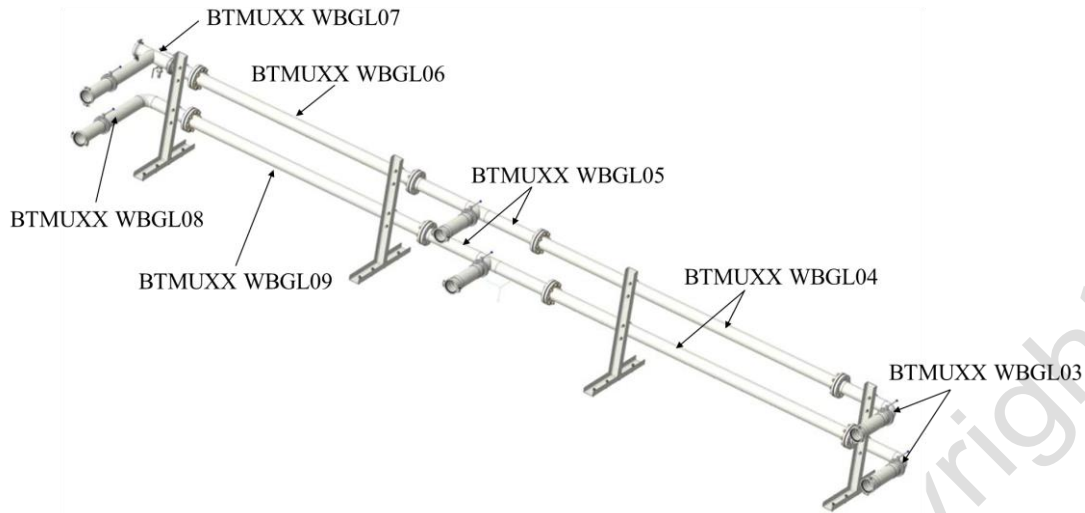

Figure 6.8 Pipeline installation detailed diagram.
- a. Connect the pipes and components in sequence according to the pipeline installation diagram Figure 6.8.
- c. Before tightening the bolts of the pipes, lubricating oil needs to be applied first. The installation must be carried out according to the serial numbers indicated on the following drawings. The installation sequence is: ①BTMUXX WBGL07→②BTMUXX WBGL08→③ BTMUXX WBGL06 → ④ BTMUXX WBGL09 → ⑤ BTMUXX WBGL05 → ⑥ BTMUXX WBGL04→⑦BTMUXX WBGL03.